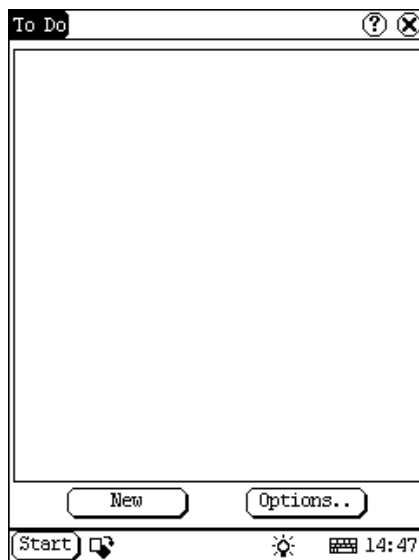

Figure 4-23
- 4) Display interface. (See Figure 4-23)